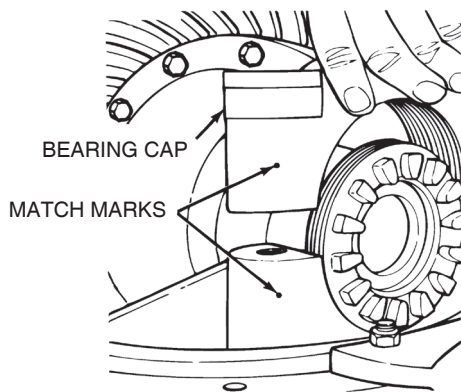

Figure 5.34
8. Install the bearing caps over the bearings and adjusting rings in the correct location as marked before removal. Figure 5.34